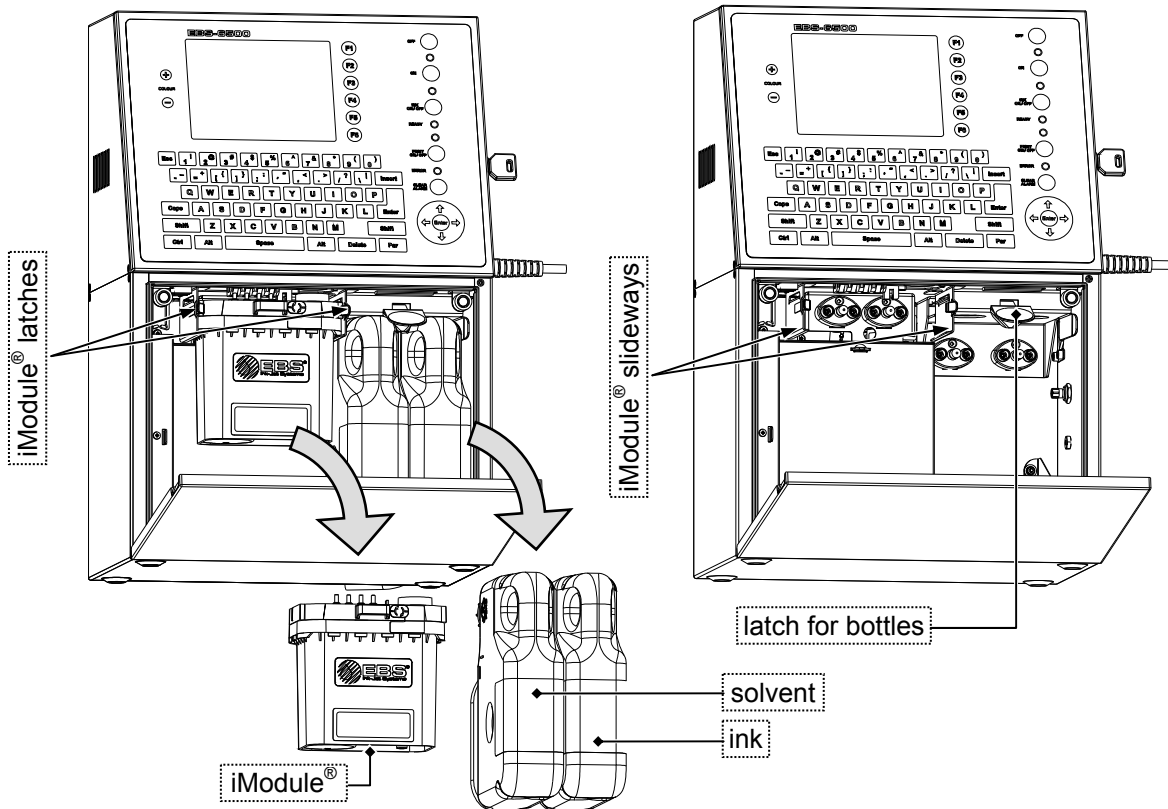
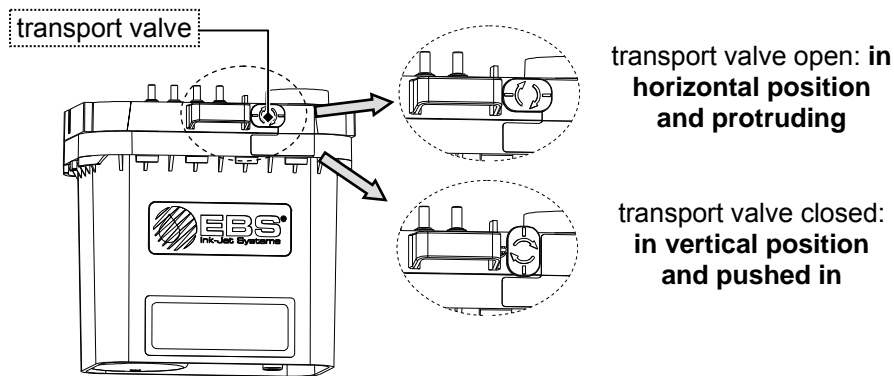

Fig. 5.1
Fig. 5.2.2
1. Lift the latch for bottles (see Fig. 5.1) and remove the empty bottle from which ink (or solvent) has been taken so far; the following message can appear on the terminal:
- Close the transport-safety valve (see Fig. 5.2.2) and then remove iModule[®] from the printer. In order to pull out the iModule[®] from the inside of the ink system chamber you need to tilt two fastening latches aside (see Fig. 5.1). A few seconds after this operation the following message is displayed:
Follow the above given request (and that on the sticker on the iModule[®]) and open the transport-safety valve of the iModule[®] (see Fig. 5.2.2). When the operation is completed, confirm it with the  icon.